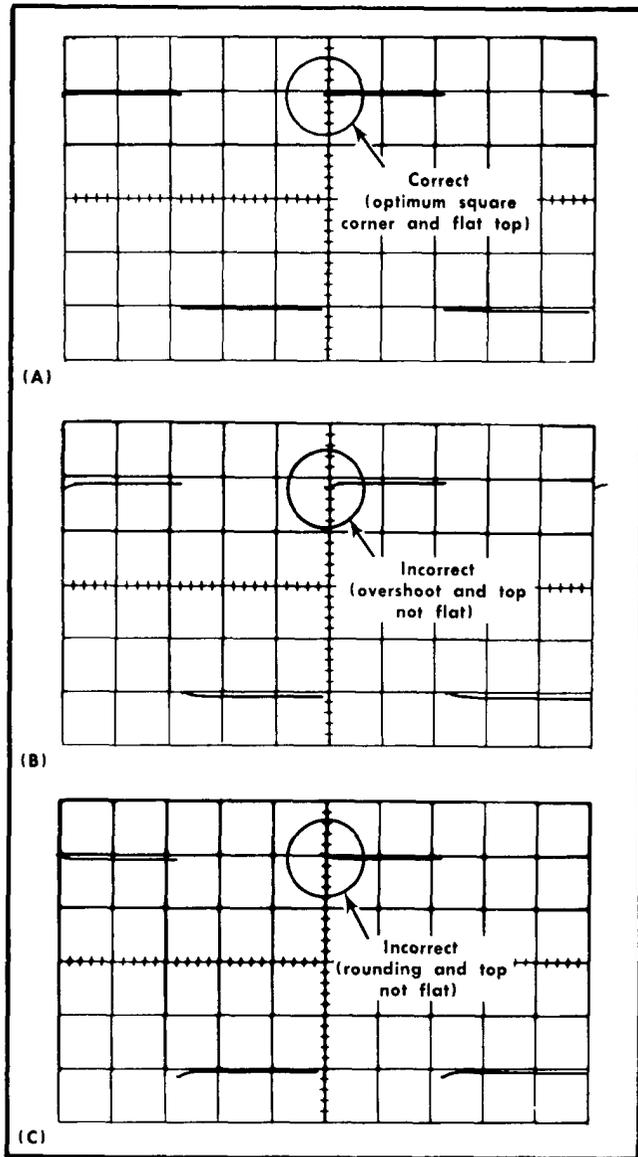

Fig. 5-5. (A) Typical CRT display showing correct compensation, (B) and (C) incorrect compensation.
d. CHECK-CRT display at each CH 1 VOLTS/DIV switch position for 3% or less overshoot, rolloff or tilt (see Fig. 5-5). Adjust the square-wave generator output amplitude as
d. CHECK-CRT display at each CH 2 VOLTS/DIV switch position for 3% or less overshoot, rolloff or tilt (see Fig. 5-5). Adjust the square-wave generator output amplitude as needed to maintain a four-division display (except in 2, 5 and 10 positions where display will be less than four divisions).